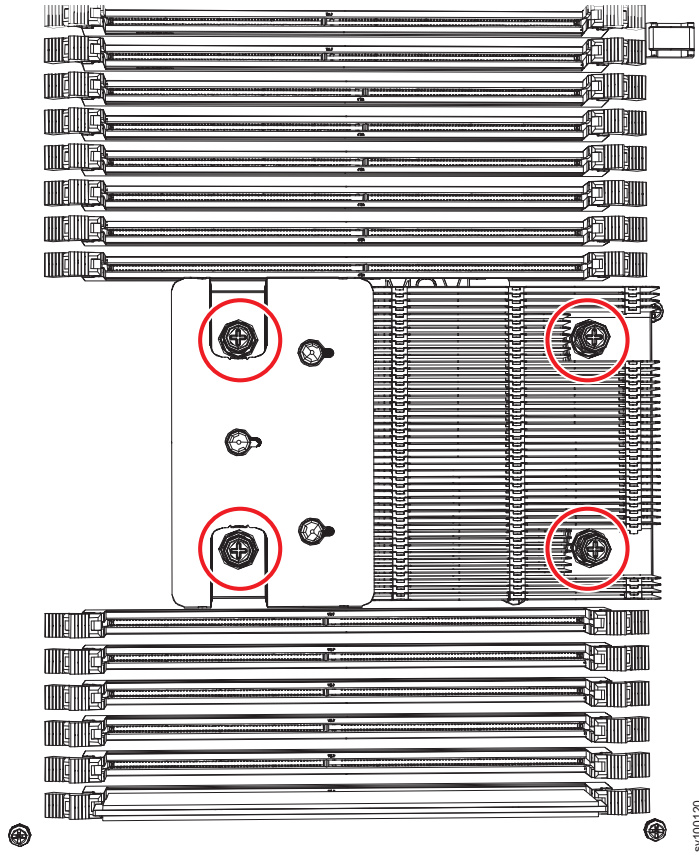

Figure 290. Removing the heat sink
1. Undo the heat sink retention screws, as shown in Figure 290 on page 352.